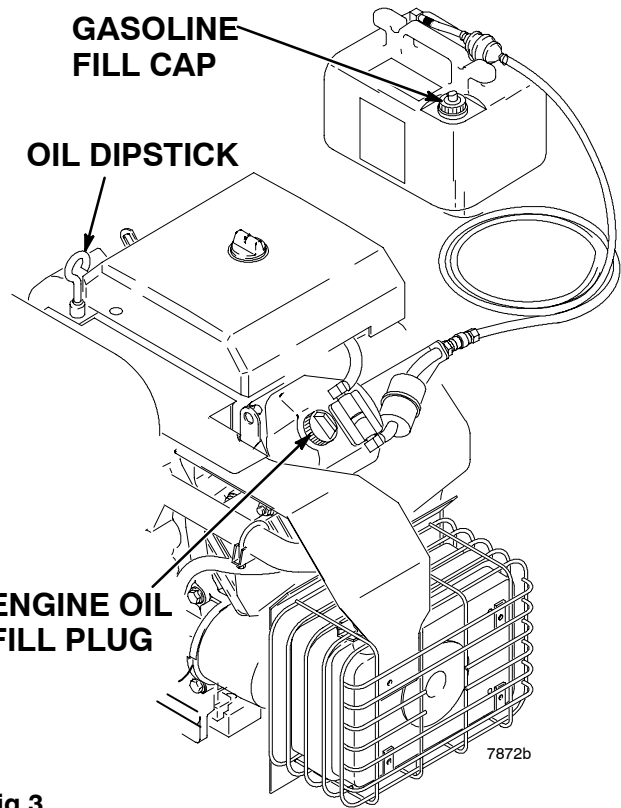

Fig 3 7872b
- a. Remove the dipstick. See Fig 3.
- a. Close the fuel shutoff valve. See Fig 3.
- c. Remove the gasoline fill cap and fill the tank. Be sure the air vent in the fill cap is not plugged so gasoline can flow to the carburetor, then replace the cap. See Fig 3.